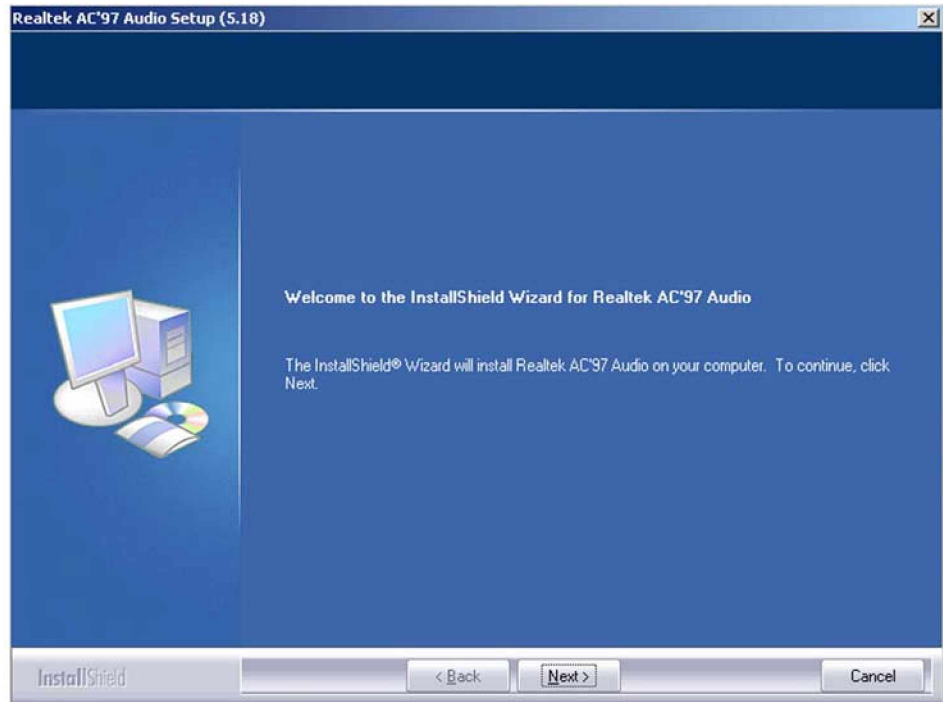
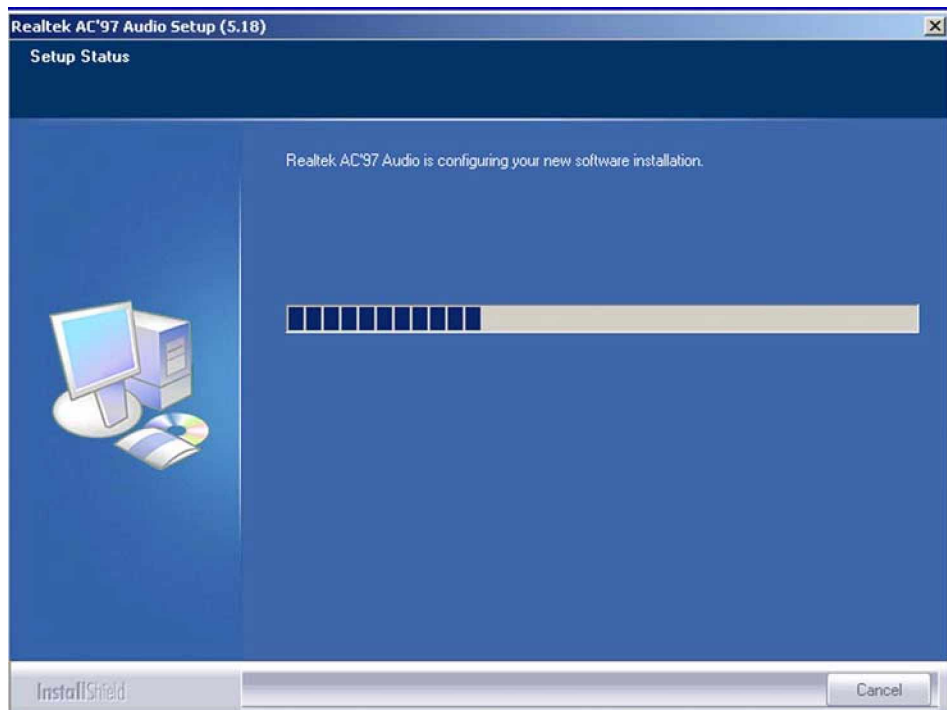

Figure 6-11: Audio Driver Welcome Screen
Figure 6-12: Audio Driver Software Configuration
**Step 4:** After install shield is prepared, the welcome screen shown in **Figure 6-11** appears. To continue the installation process, click the **"NEXT"** button. The install shield starts to configure the new software as shown in **Figure 6-12**.